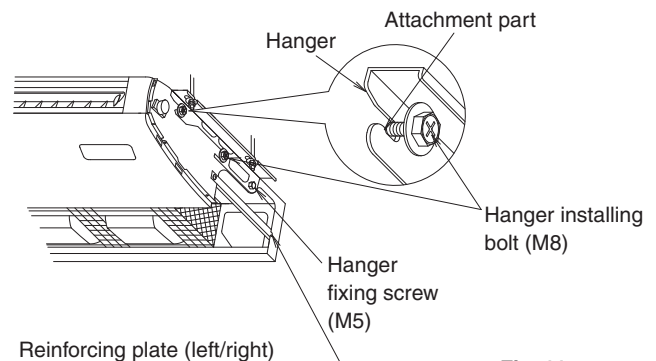

Fig. 11
(2) Lift up the indoor unit, slide from the front and put the hanger installing bolt (M8) into the securely for temporary hanging. **(Refer to Fig. 11)**
(3) Tighten the hanger fixing screws (M5) at 2 places, which were removed, as they were before. **(Refer to Fig. 11)**
(4) Tighten the hanger installing bolts (M8) at 4 places securely. **(Refer to Fig. 11)**